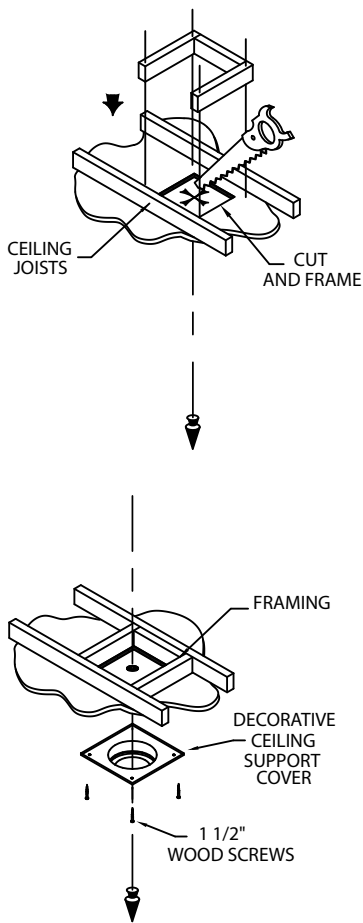

Figure 14
**Step 3.** To install the Round Ceiling Support/Wall Thimble Cover in a flat ceiling, refer to **Table 1, page 8** and cut a square hole in the ceiling (unless otherwise specified by the appliance manufacturer) centered on the hole drilled in Step 2. Frame the hole as shown (**Fig. 14**).